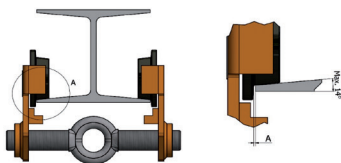

Fig. 9
- ⚠ The maximum inclination of the beam flange should not exceed  $14^\circ$  (see fig. 9).
- ⚠ The air gap between the guide roller crown and beam flange should be 1.0 - 2.5 mm (height A, Fig.9).